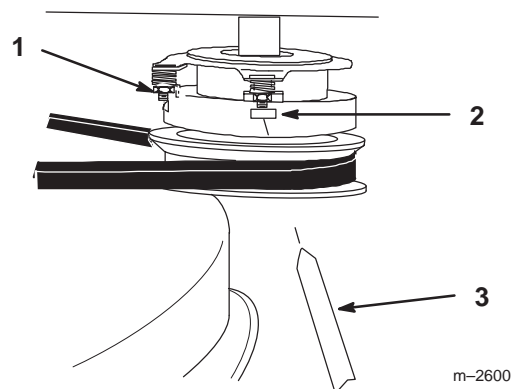

Figure 39
1. To adjust clutch, tighten or loosen lock nuts on flange studs (Fig. 39).
2. Check adjustment by inserting feeler gauge through slots next to studs (Fig. 39).